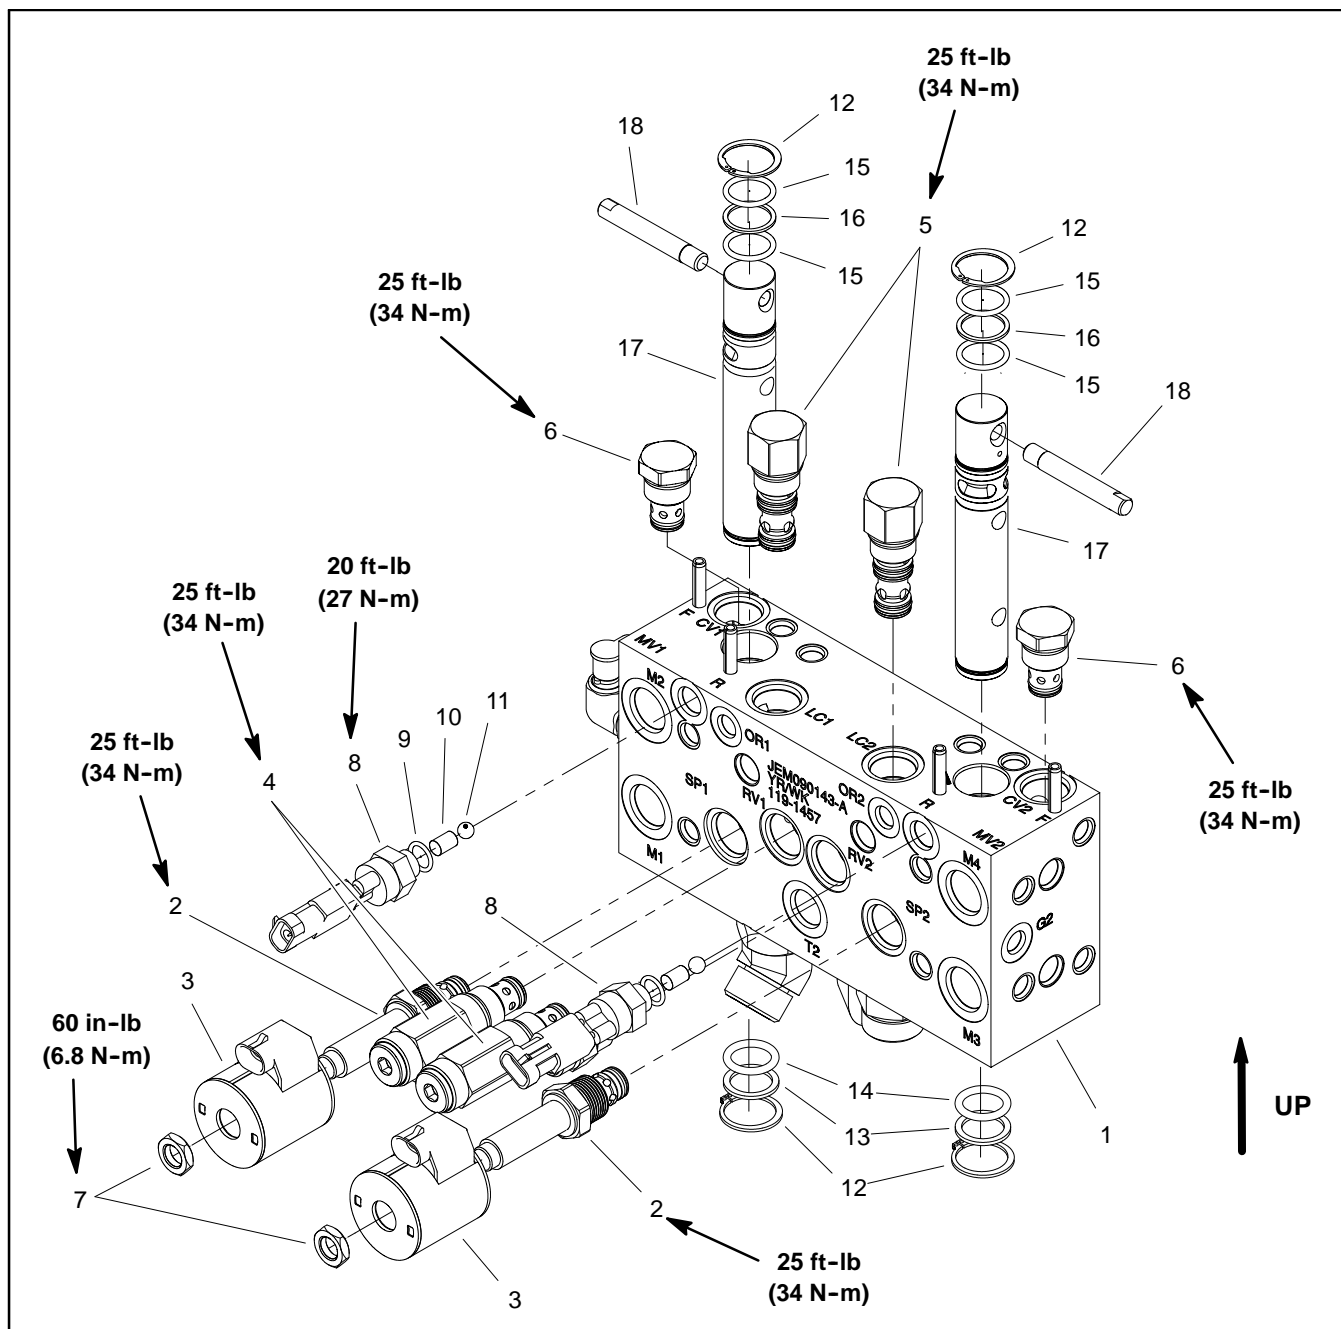

Figure 74
1. For cartridge valve service procedures, see Control Manifold Cartridge Valve Service in this section. Refer to Figure 74 for cartridge valve installation torque.
## Mow/Backlap Spool Service (Fig. 74)